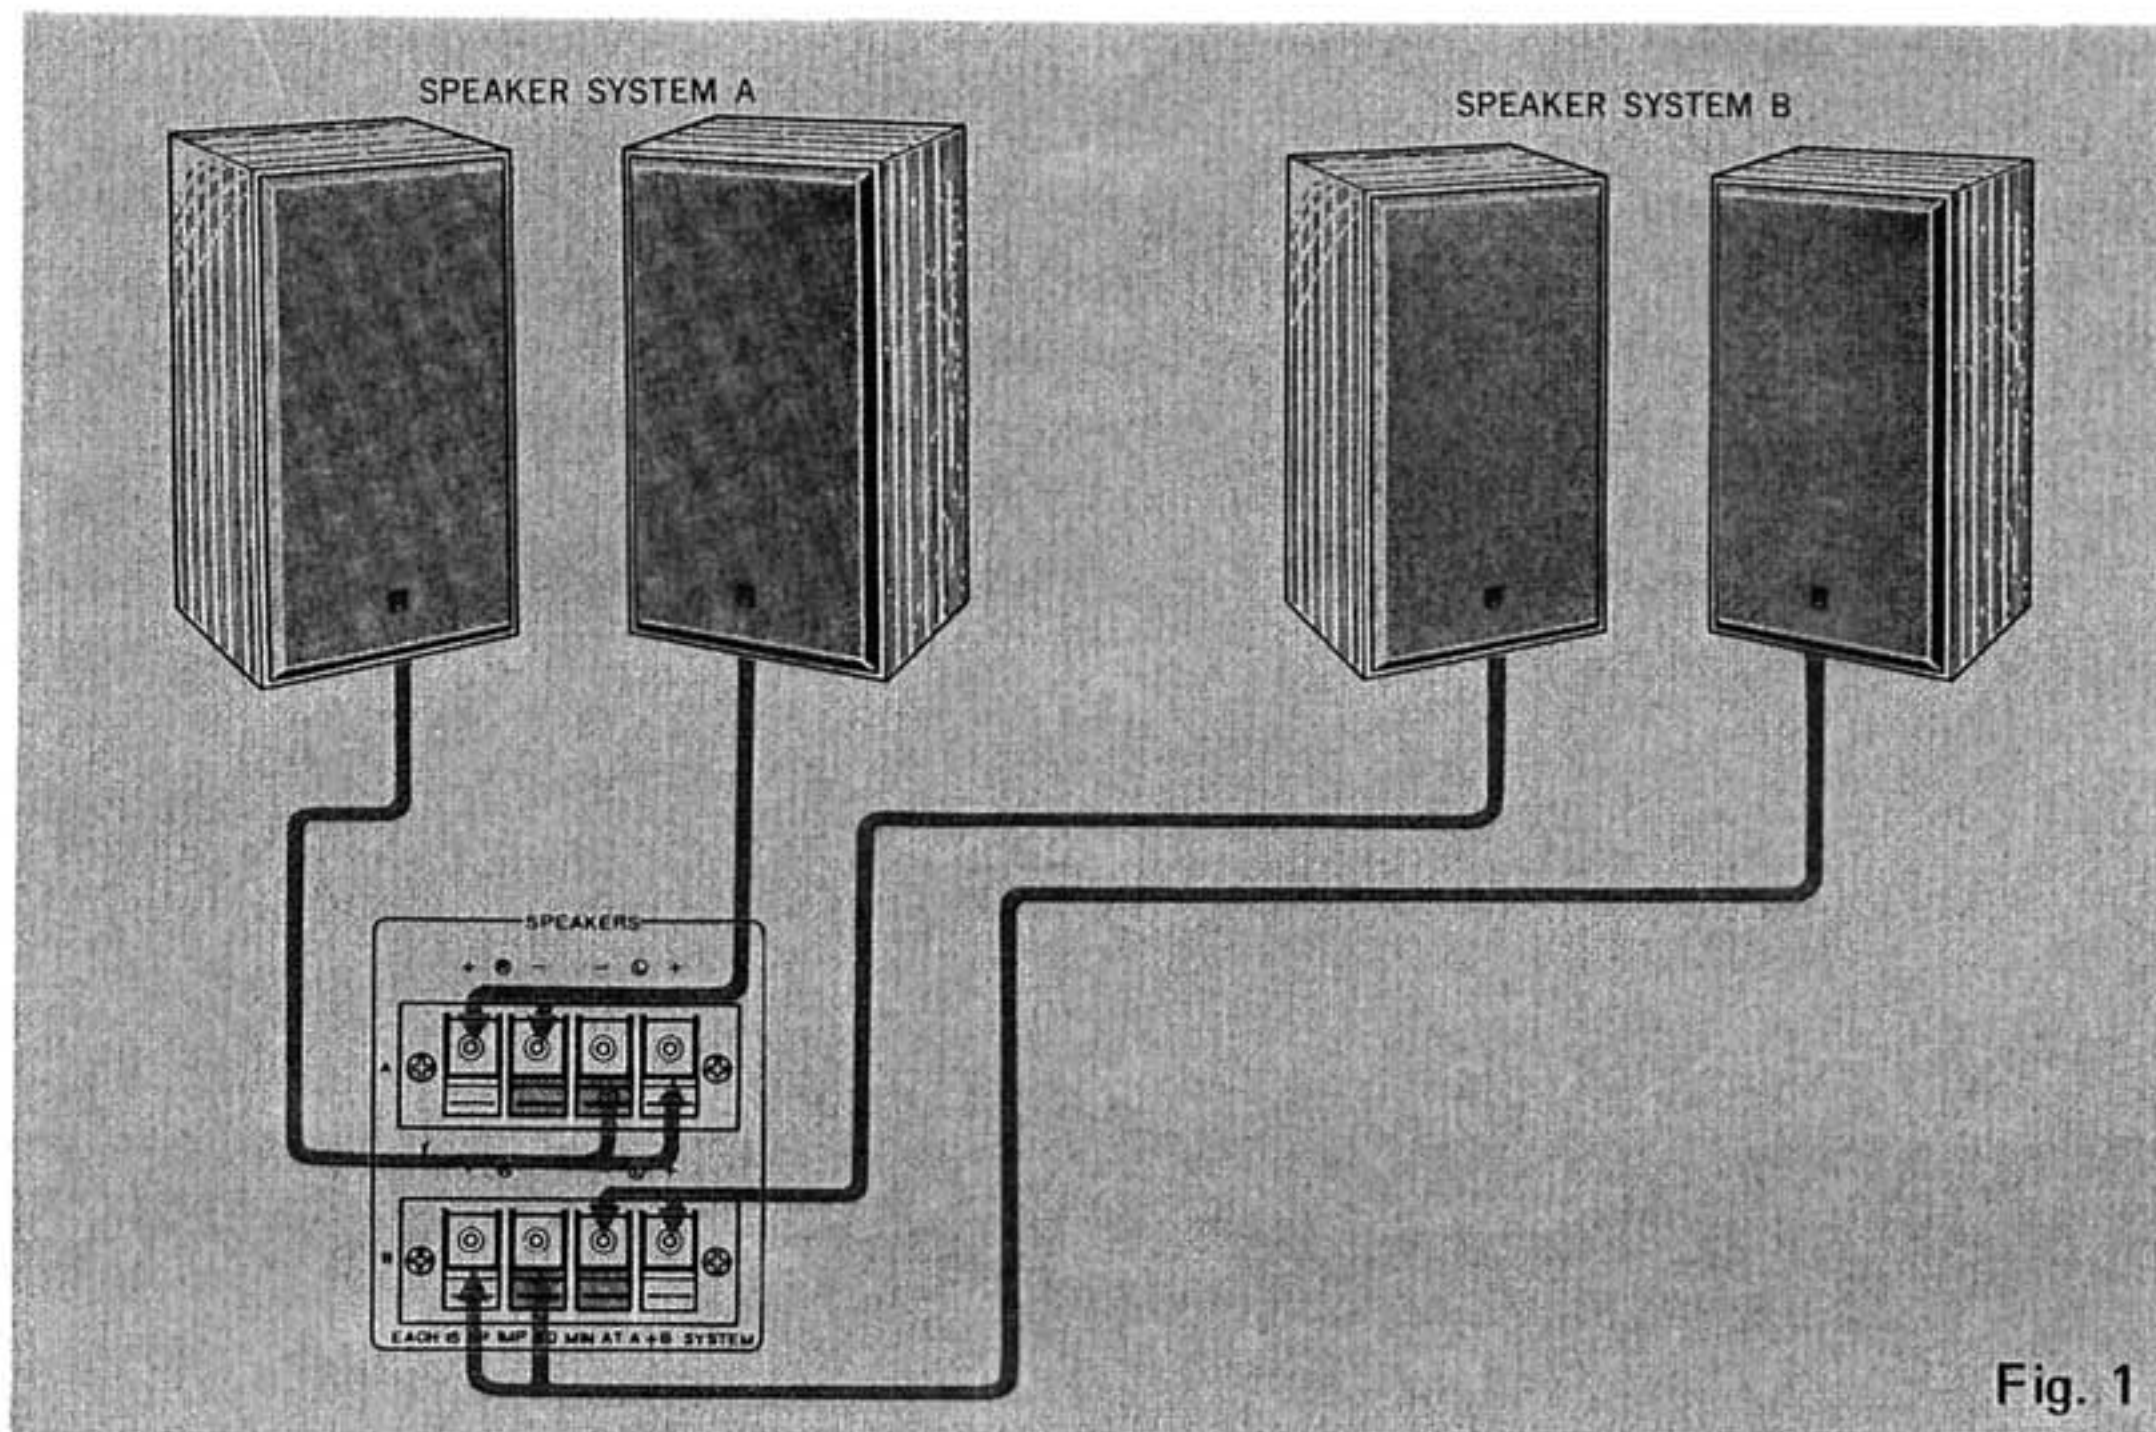

Fig. 1
speaker terminals, and red (+) output terminals to (+) speaker terminals. See Fig. 1.
1. There are two sets of speaker Terminals (A, B) on the rear panel, permitting the connection of two separate sets of speakers (See Fig. 1).